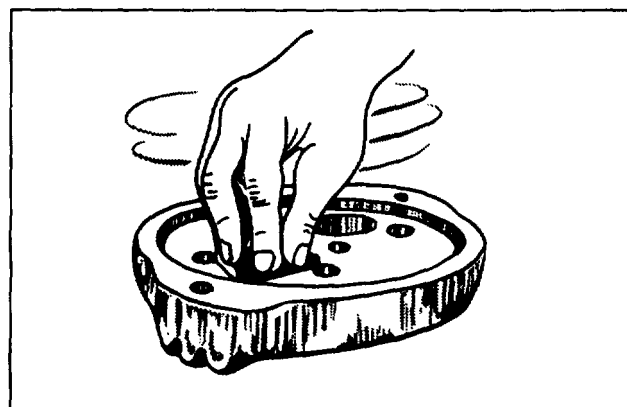

FIGURE 10 Use of Small File Piece to Remove Burrs and Nicks
b. With a flat file (small piece of normal metal file) remove nicks and burrs from around bearing bores and holes of adapter and cover. (Figure 10).